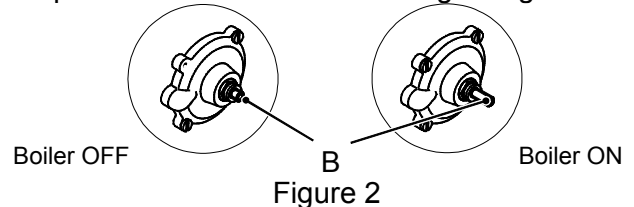

Figure 2
- 3) Looking through the switch box verify the position of the shaft B referring to Figure 2.